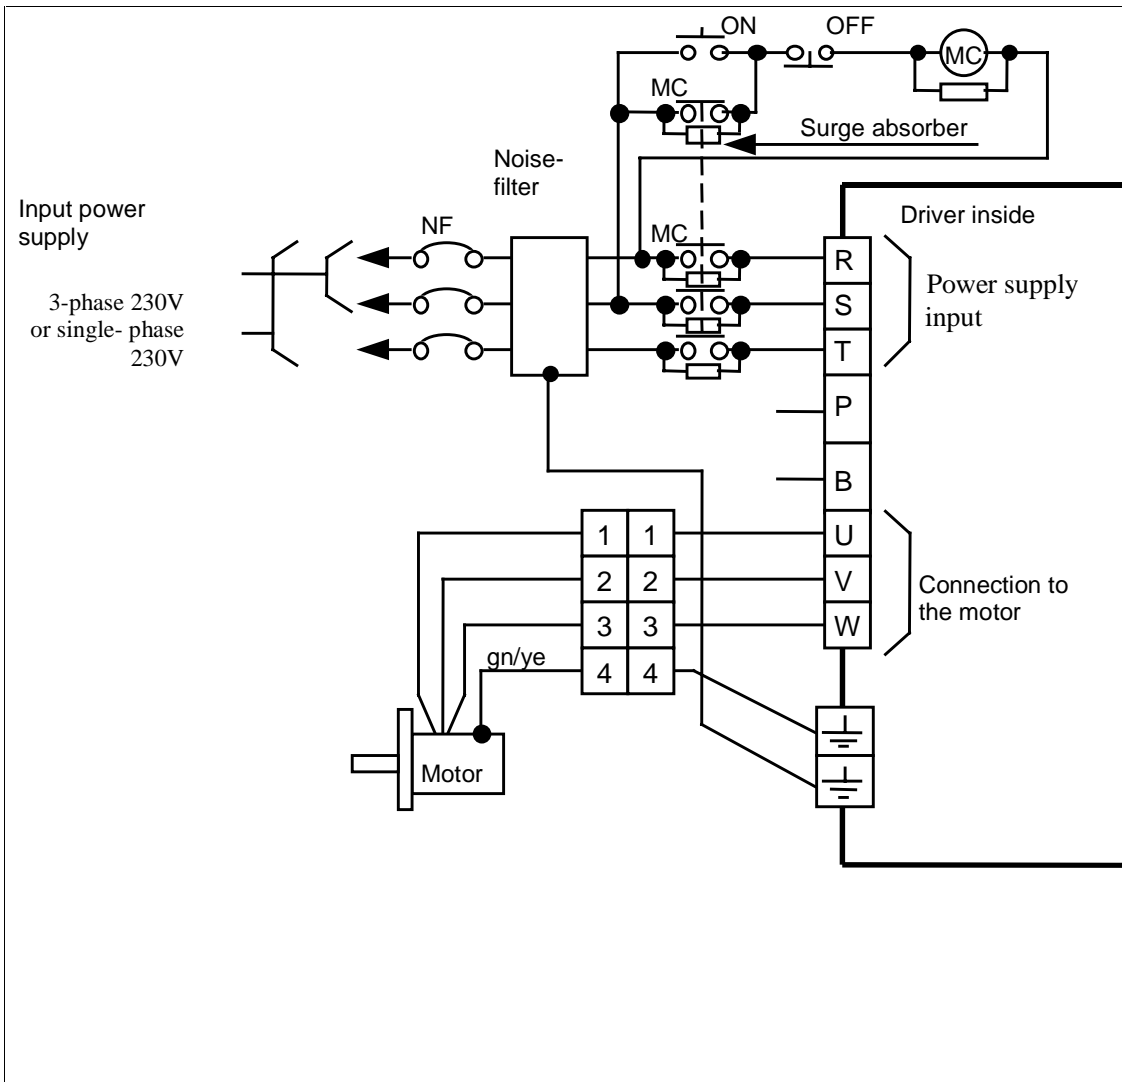

Fig. 3-1 Wiring to terminal block
- (1) The terminal block cover is fixed by screws. Unscrew it to open and make wiring to the terminal block.
- (2) Wire securely according to Fig 3-1 "Wiring to terminal block".
- (3) With regard to devices for wiring and electric wires to be used, etc., refer to 3-2.
- (4) For power supply voltage, apply a voltage indicated on the name plate.
- (5) Do not make reverse connection of the power input terminals (R,S,T) and the motor output terminals (U,V,W).
- (6) Do not ground or short-circuit the motor output terminals (U,V,W) mutually.